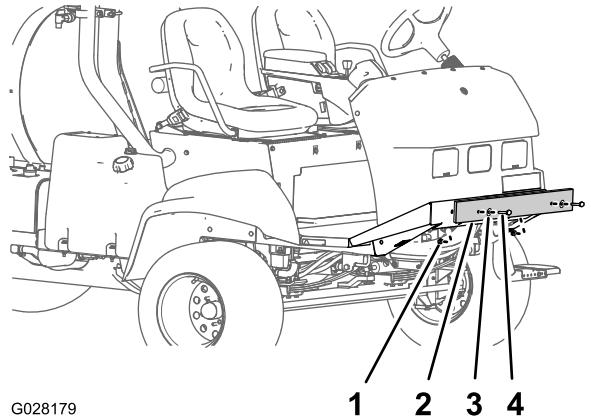

Figure 10
1. Remove the bolts, washers, and nuts that secure the shipping bumper to the front chassis plate (Figure 10).